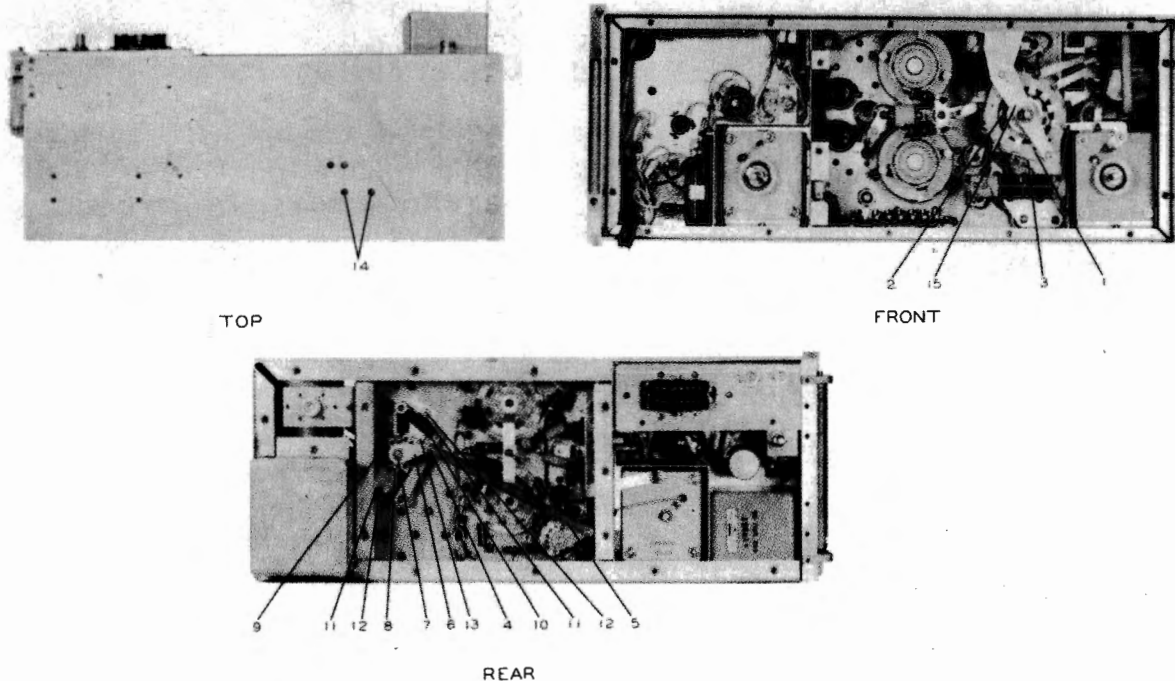

Figure 3-2. Radio Frequency Amplifier AM-2061/URT,
(4) Remove the fourteen binder-head screws (8) that mount the front panel (6) to the chassis.
(5) Pull out and swing the front panel (6) down; be careful to avoid damage to cable and wiring to front panel (6).
(6) Remove the twenty-three screws (9) that mount the back panel (10) to the unit. Remove back panel (10).
b. BAND SWITCH ASSEMBLY FROM CHASSIS. - Refer to figure 3-2 for component location and proceed as follows:
(1) Unsolder and remove straps and wires that are connected to the front switch wafer S6-B (1).